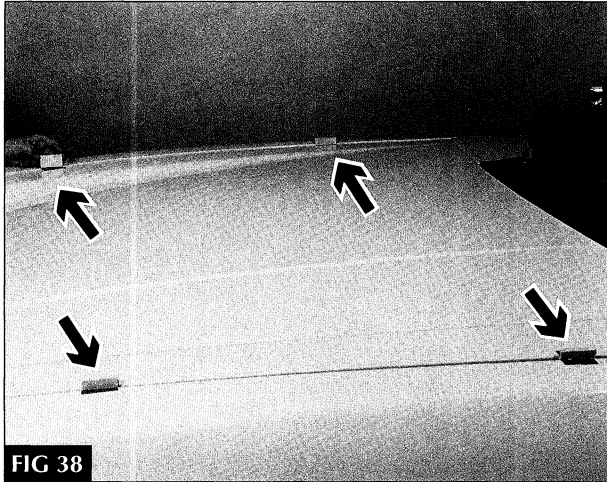
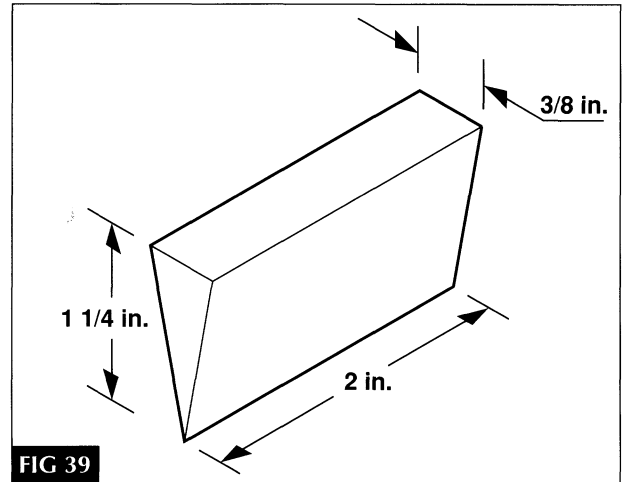

FIG 38
FIG 39
During adjustment, the hood can be stabilized by placing four wooden wedges between the hood and the fenders [two per side]. Protect the finish with duct tape applied to the fender and the hood [FIG 38]. Fabricate the wedges per the dimensions in FIG 39.
- 2 Place the four wood wedges [FIG 38, PAGE 25] and adjust the front height and the side to side positioning by loosening the hood to hinge bolts [FIG 45]. Tighten the bolts when the hood is set.
The trunk lid adjustment requires the aid of an assistant inside the trunk to loosen and tighten the hinge bolts while the exterior panel is being positioned. The lid is best stabilized during adjustment by placing wood wedges between the lid and the fenders [FIG 49]. Refer to FIG 39, page 25 for wedge information.